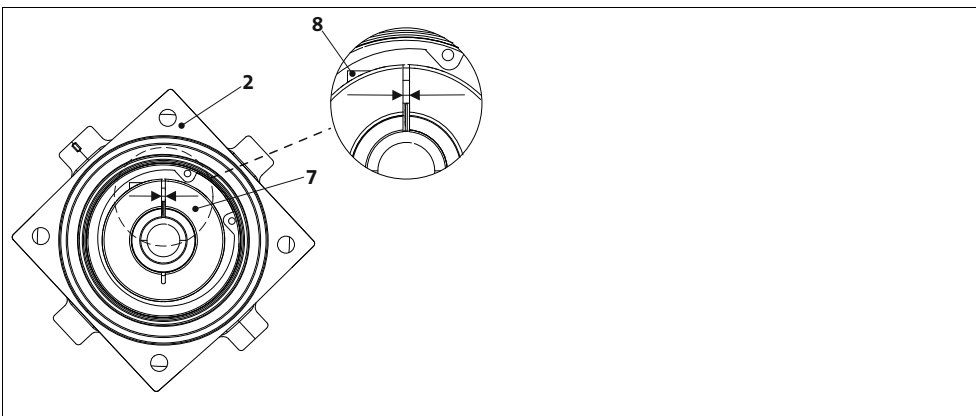

Fig. 6 Assignment: Motor shaft, clamping ring and mounting hole
3. Align the slots of the gearbox drive hollow shaft and the clamping ring to each other and to the mounting hole (Fig. 6).